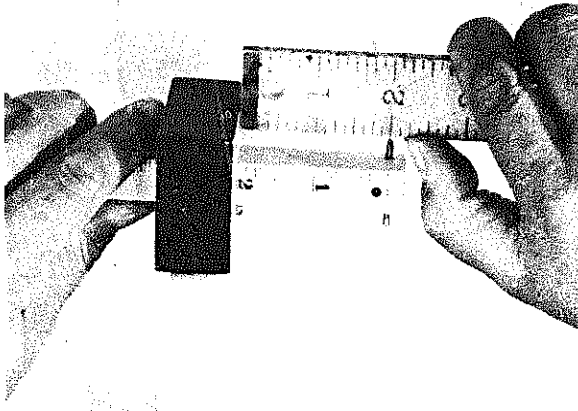

Fig. 4-4 Checking the setting of the gauge
1. Adjust the head on the beam at the required distance. Measure the distance between the pin and the head with a rule as in figure 4-4.